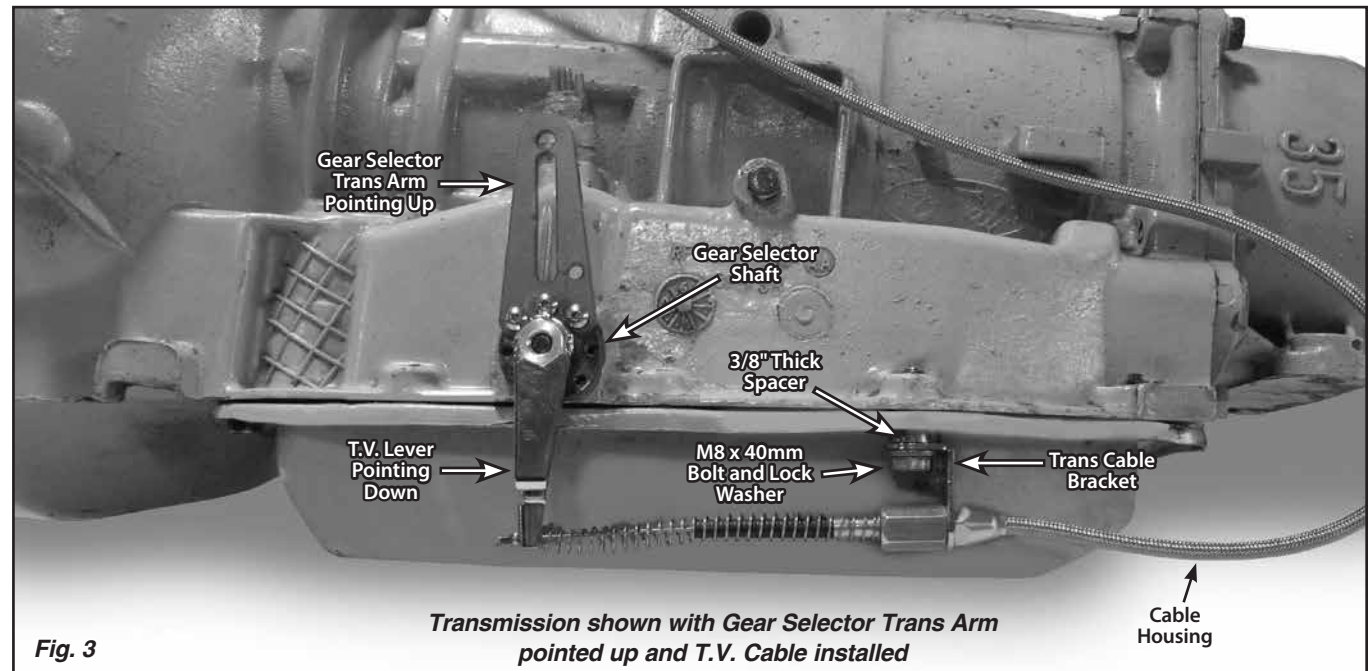

Fig. 3
Step 3: (Continued) Remove the original pan bolt. Install the supplied M8 x 40mm bolt with the supplied lock washer, trans cable bracket, and 3/8" thick spacer installed onto the bolt in that order. The spacer will keep the T.V. cable in line with the T.V. lever. Make sure the vertical part of the trans cable bracket is positioned to the rear of the pan bolt as shown in Fig. 3.